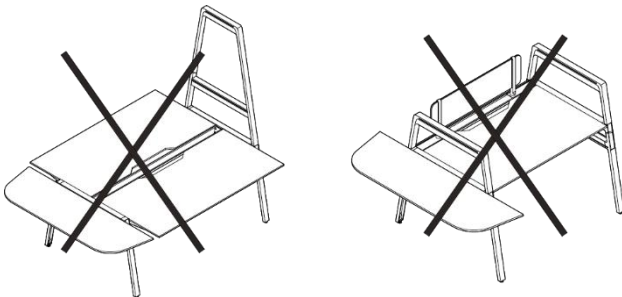

Figure 13 Trapezoidal desktop extension, impermissible attachment
- Dual workstation, seating height (see Figure 13, left).
- Single workstation (see Figure 13, right).